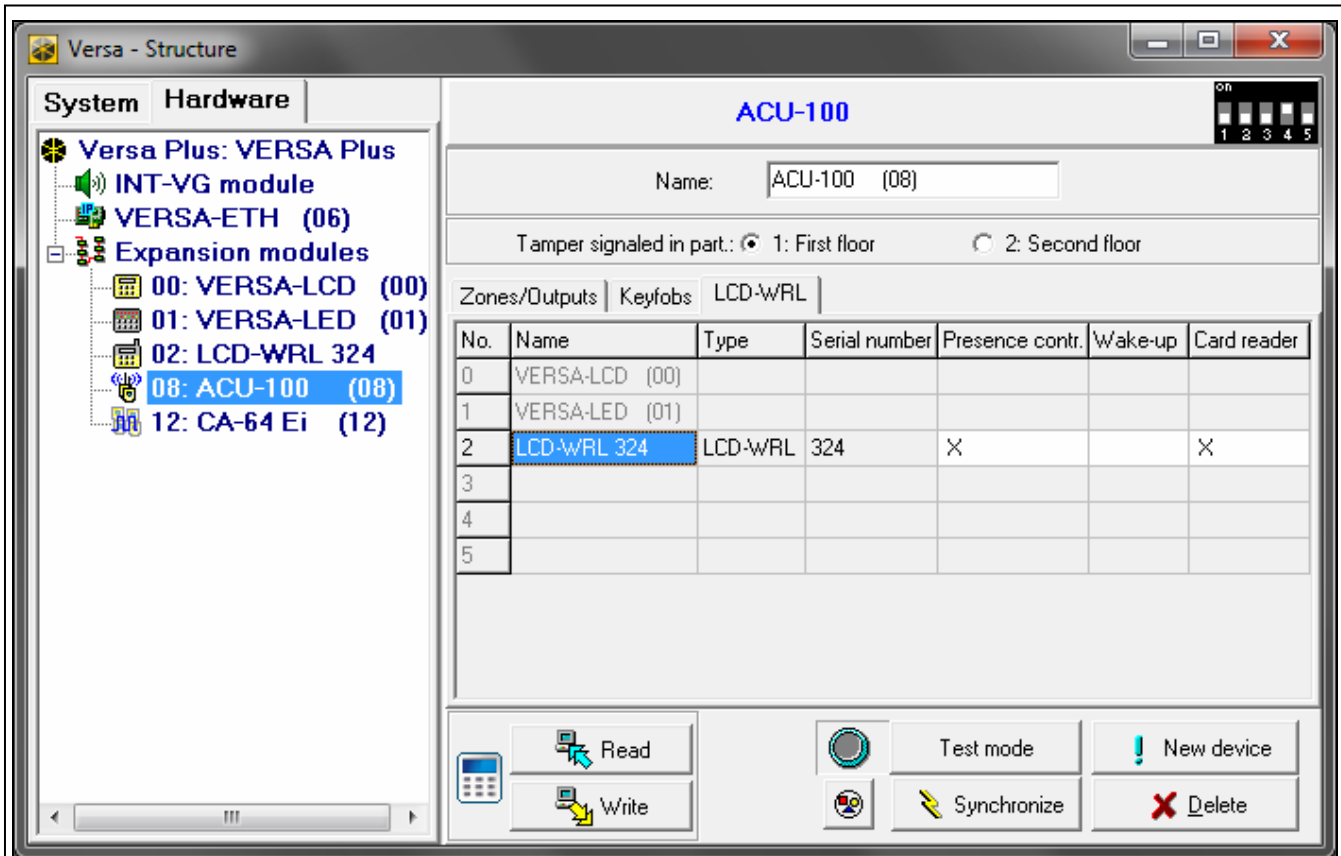

Fig. 3. DLOADX program: keypad settings stored in the ABAX system controller.
You can add wireless keypads in the “Versa – Structure” window, “Hardware” tab, after clicking on the name of ABAX system controller on the list of devices, and then on the “LCD-WRL” tab (see: Fig. 3 p. 6).
You can remove the wireless keypads in the “Versa – Structure” window, “Hardware” tab, after clicking on the name of ABAX system controller on the list of devices, and then on the “LCD-WRL” tab (see: Fig. 3 p. 6).
- DLOADX program: → “Versa – Structure” window → “Hardware” tab → “Expansion modules” branch → [ABAX system controller name] → “LCD-WRL” tab (see: Fig. 3),